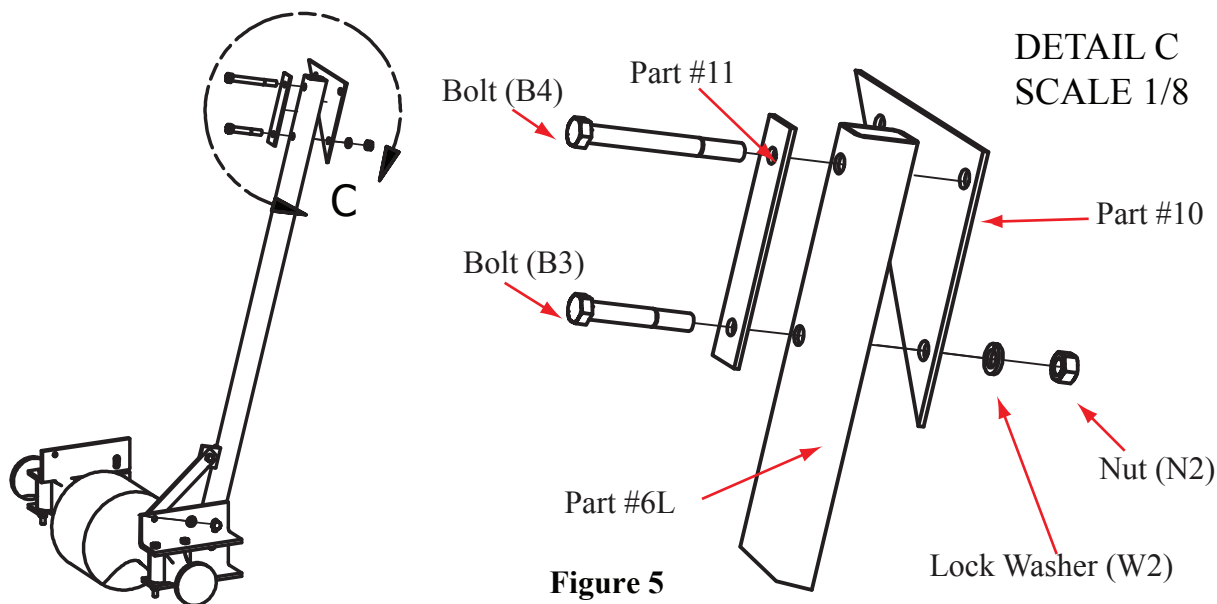

Figure 5
**Step 9.** Install corner plate (#10) by aligning the bottom and corner holes of the corner plate with the top two holes on the left vertical tube (#6L). Insert bolt (B3) through the top vertical tube backing backing plate (#11), then through the lower hole in the vertical tube (#6L) and the bottom hole of the corner plate. Place lock washer (W2) and nut (N2) onto bolt (B3) and secure a snug fit. (Figure 5)
**Step 10.** Insert bolt (B4) through the top hole of the top vertical tube backing plate (#11), the top holes of the vertical tube (#6L), and the corner hole of the corner plate. (Figure 5)